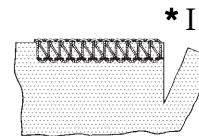

Fig. 2
NOTE: When overlocking and trimming at the same time, cut the fabric along the new stitching line for about 3 cm, before turning the fabric. Fig. 2.
3. Insert the cord through either the front or rear hole (according to the operation, see diagrams Figures 2 and 3), in the presser foot and pass it under and to the rear of the foot.
FOR JOINING SHOULDERS OR SLEEVES, pass the cord through the front hole, ensuring that it is fixed between the left and right needle threads as it is guided through the front hole. (Fig. 2).